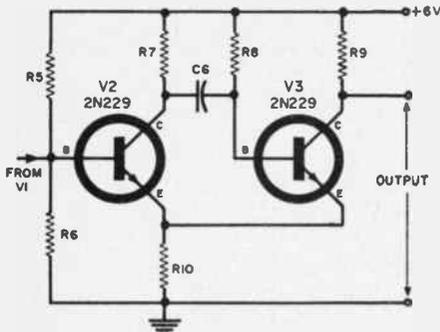
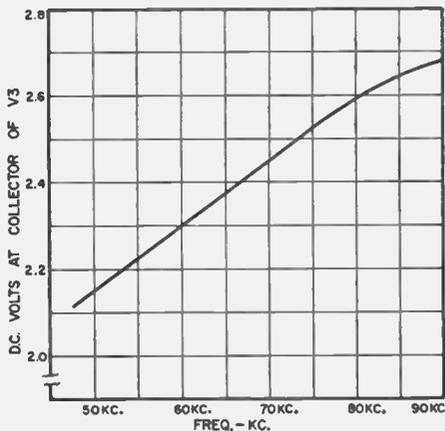
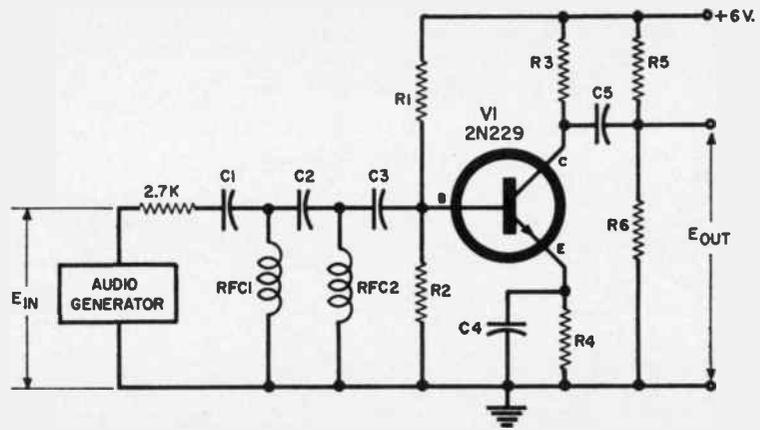

Fig. 2. Monostable multivibrator circuit.
Fig. 3. Monostable multivibrator response.
Fig. 4. Filter and amplifier portion of the transistorized multiplex adapter.
Fig. 3. (A) Maximum output of playback head along with the recording equalization (B) and playback equalization (C) used. All curves apply to operation at 1 7/8-ips speed.
In the interests of simplicity a constant- $k$ , high-pass filter and amplifier circuit was designed rather than the more complex bandpass type. The adapter described herein was for experiments on a subcarrier of 67.5 kc. and the filter was designed to cut-off in the neighborhood of 40 kc. For a 50 kc. subcarrier, a cut-off frequency of about 25 kc. would be more desirable. Fig. 4 is the diagram of the filter and amplifier while Fig. 1 shows the over-all gain characteristics as a function of frequency.
The frequency discriminator was designed originally as a monostable multivibrator and is shown in Fig. 2. Transistor  $V_1$  is normally held in
Fig. 3 shows the results of actual measurements taken on the circuit of Fig. 2 connected to the filter and amplifier of Fig. 4. A sinusoidal voltage of sufficient amplitude to cause reliable triggering of the multivibrator was applied to the input of the filter. From this curve it can be seen that a peak-to-peak audio component of about 0.22 volt will be developed for a maximum frequency deviation of  $\pm 7.5$  kc.